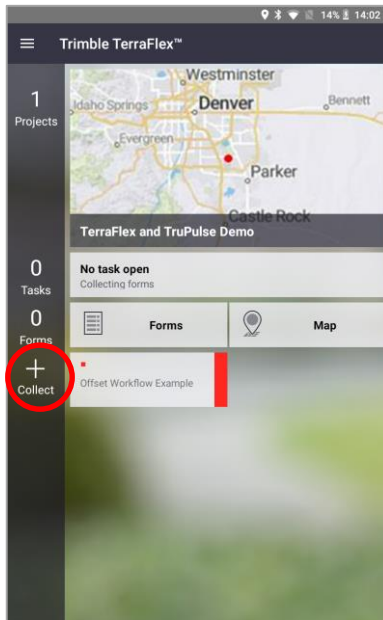

Figure 5
5. From the main screen, tap on the **Collect +** icon (Figure 5)